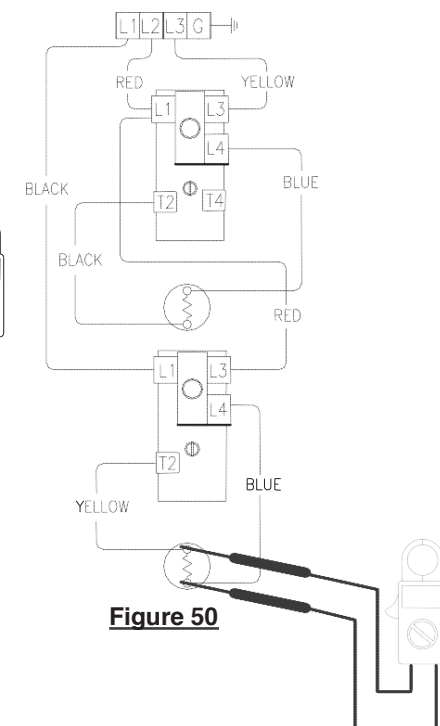

Figure 50
8. Check across lower element terminals (see Figure 50).